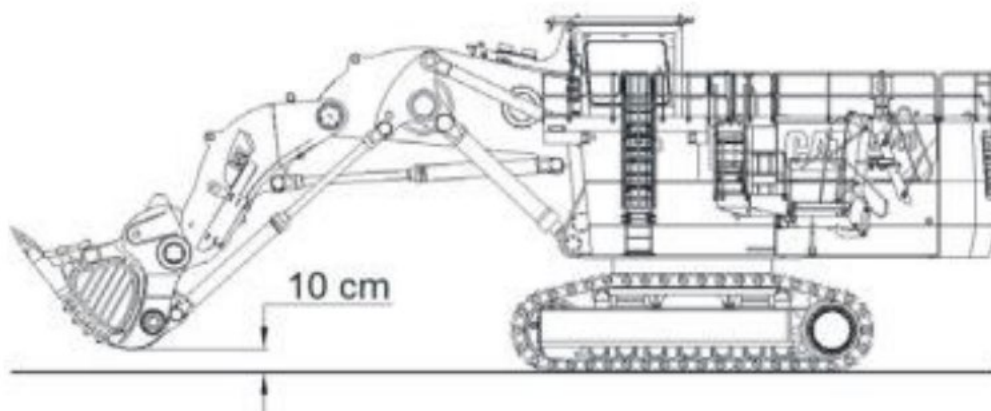

Fig.5: position the machine attachment as shown. Ensure, that there is a distance of about 10 cm between the attachment and the ground. Zero gauge.
17. Position the machine as shown in fig. 5